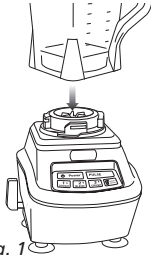

Fig. 1
- 2 Align and lower the Pitcher onto the motor base. (Fig. 1) Handle should be aligned slightly to the right of the "LOCK" symbol on the motor base.